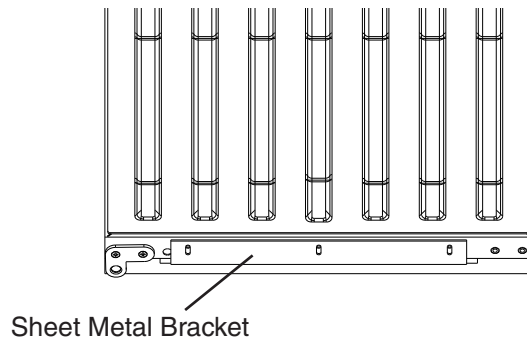

**Fig. 13**
- 1) Fasten the sheet metal bracket to the overlay panel using the two M4×8 truss head screws provided. **Snug the screws, but do not tighten.** See Fig. 13.